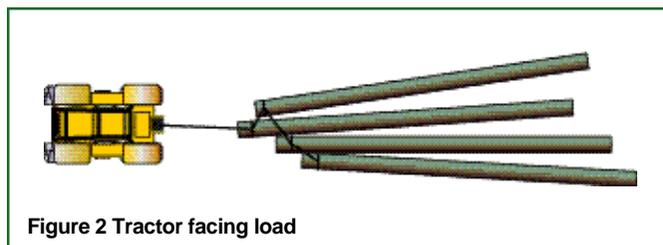

Figure 2 Tractor facing load
- 15 Position the rear of the tractor to face the load (see Figure 2). Avoid excessive side hauling. Use a re-direct pulley if required.